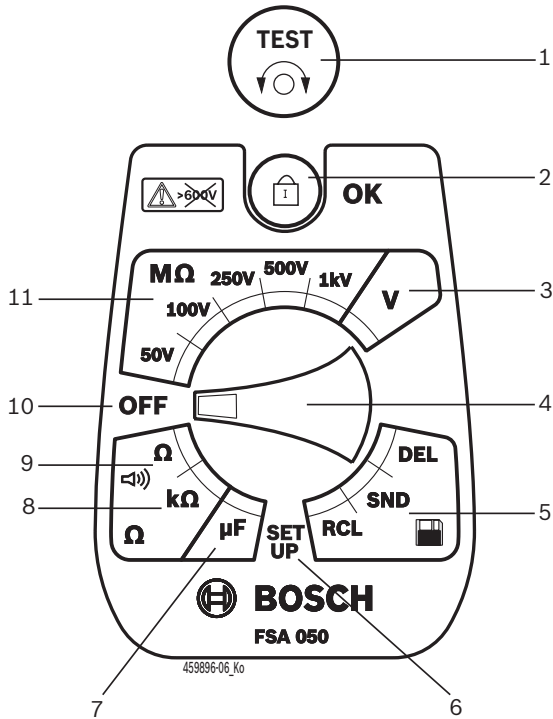

Fig. 2: Rotary switch/buttons
- Set the rotary switch to <SETUP> (fig. 2, pos. 6).
- Press <TEST> (fig. 2, pos. 1) for approx. two seconds.
- Press </OK> to store the desired value (fig. 2, pos. 2).